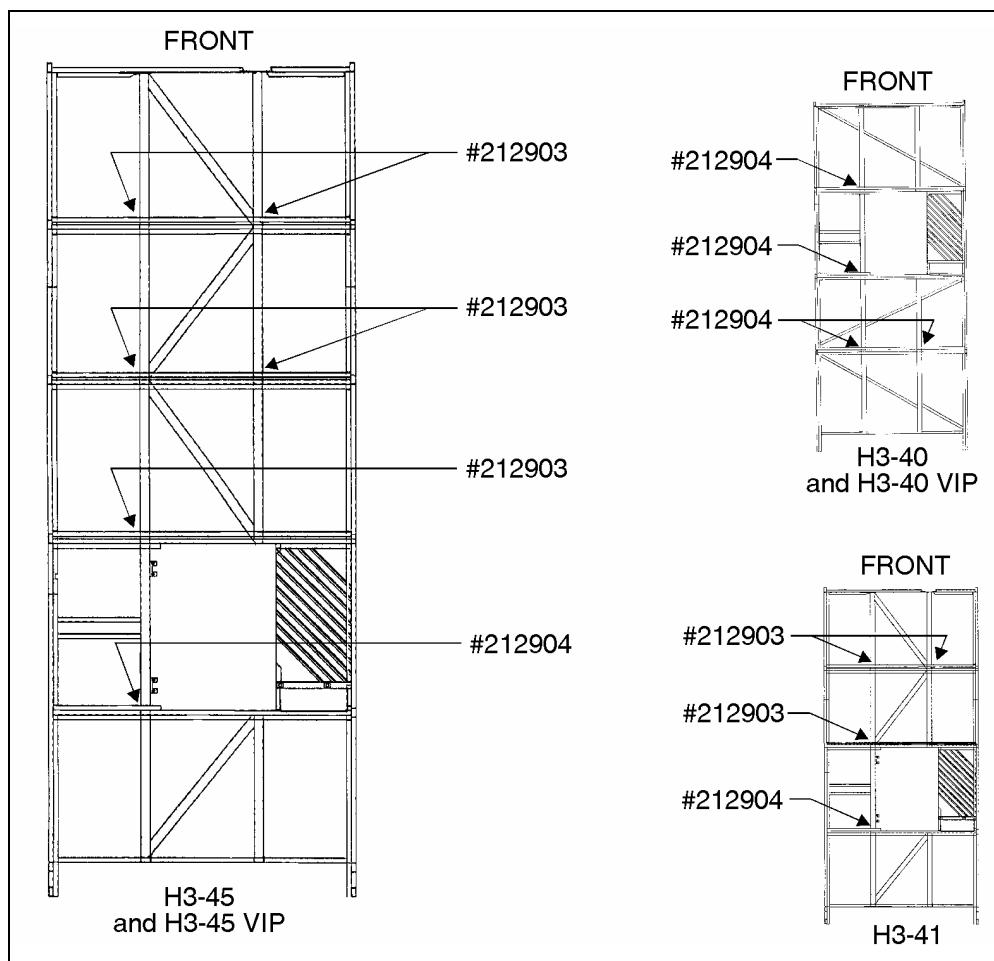
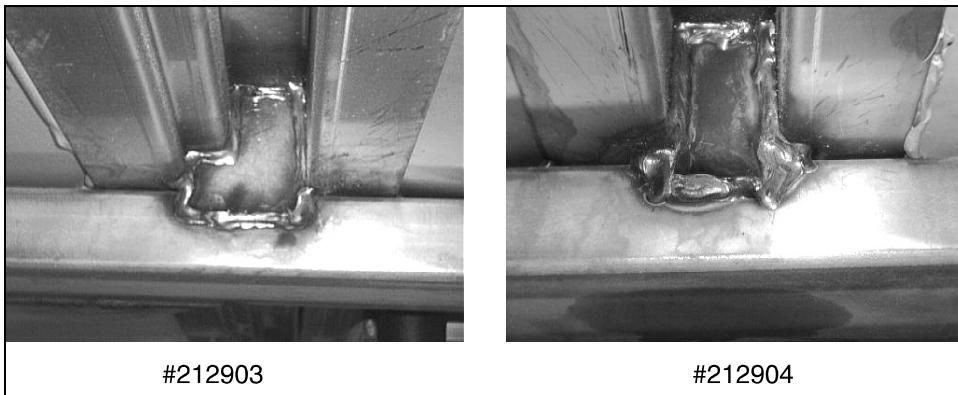

FIGURE 1: LOCALIZATION OF STRENGTHENING PIECES
FIGURE 2
2. Under vehicle, identify positions where strengthening pieces should be installed (Refer to Fig. 1, showing vehicle from under, between front and rear axles, and Fig. 2).
4. Perform weldings as seen on figure 2 (Refer to step 5 for welding instructions).